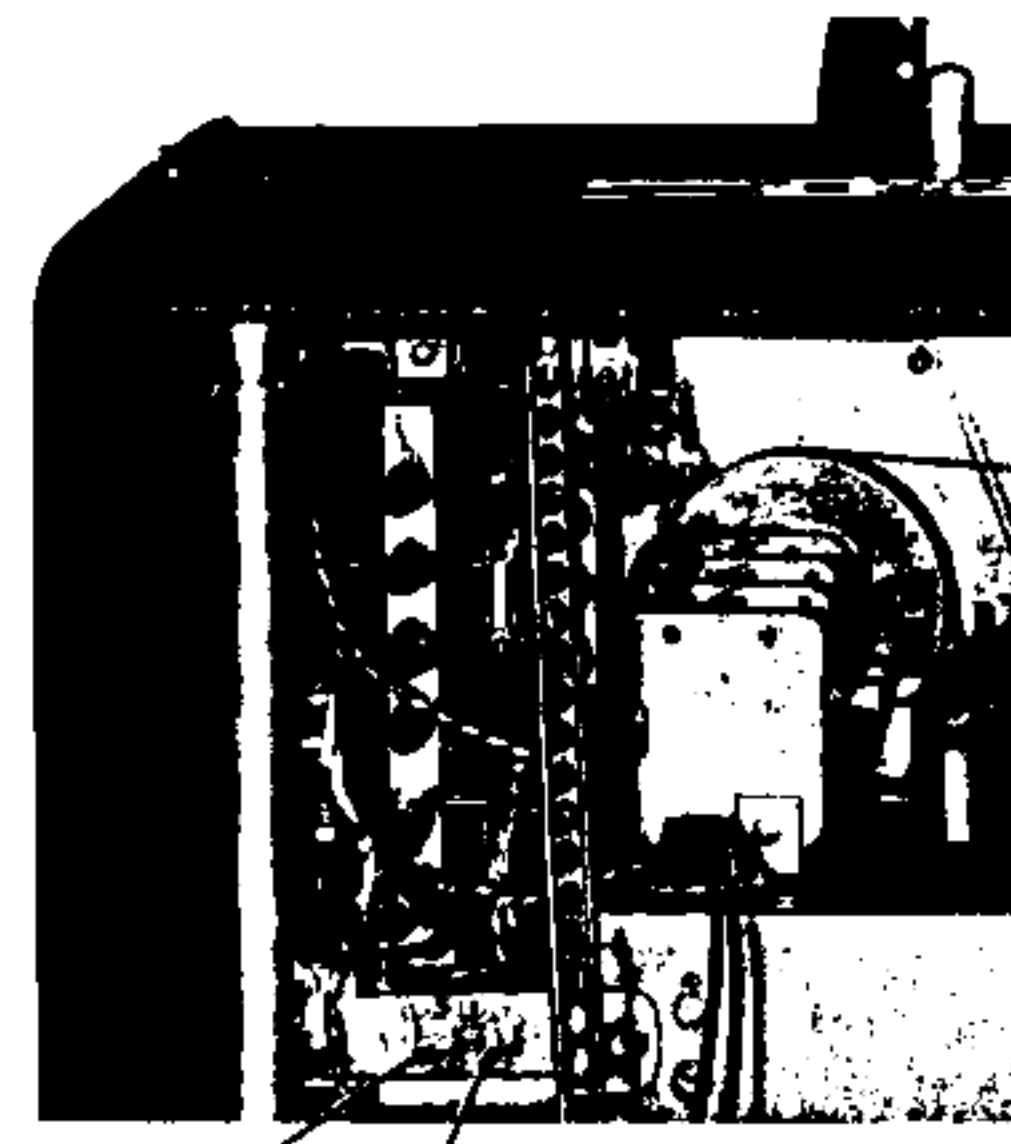

Figure 17—Antenna and Ground Terminals.
- A. An antenna and ground terminal have been provided in the left rear of the receiver chassis, (See Figure 17), to which an external antenna and ground may be connected. It is only necessary to use
- F. Antenna and ground terminals have been provided in the left rear of the receiver chassis, to which an external antenna and ground may be connected. It is only necessary to use these external antenna and ground connections when the receiver is to be operated in areas with extremely low signal strengths where it is difficult to receive a desired signal on the standard Wavemagnet. (See Figure 17.)